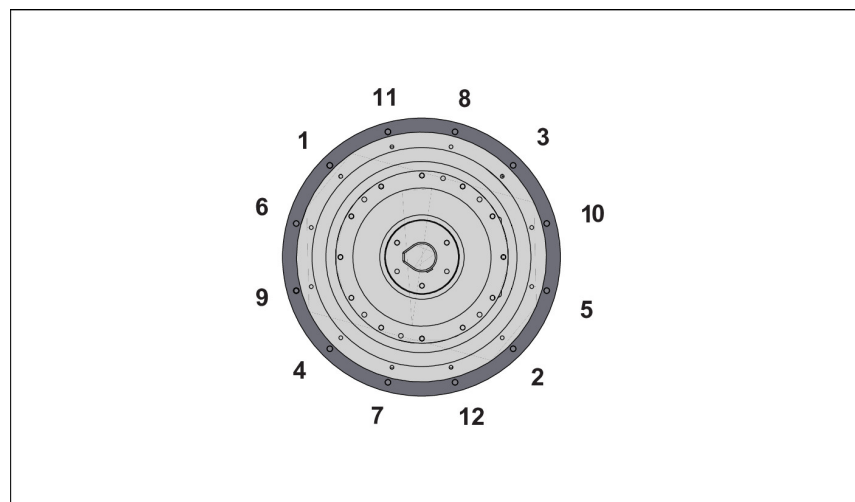

Figure 16
- a. Torque all 12 cap screws to 122 Newton meters (90 foot-pounds) dry in a criss-cross pattern (Figure 16).
- b. Torque to a final value of 156 Newton meters (115 foot-pounds) dry in the same crisscross pattern (Figure 16).